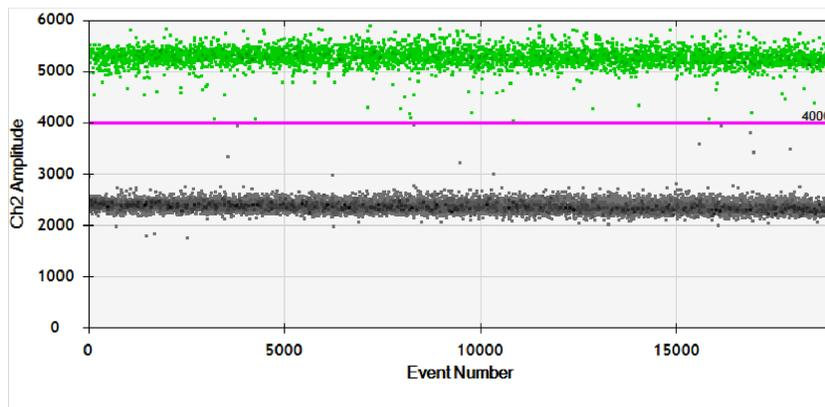

Figure 16. ddPCR 1-D plot [11]
- Make sure the positive droplets (blue/green) are separated from the negative droplets (grey) (Figure 15-Figure 16)
11. Data from Figures Figure 15-Figure 16 are generated from Bio-Rad QuantaSoft™ Analysis Pro Software